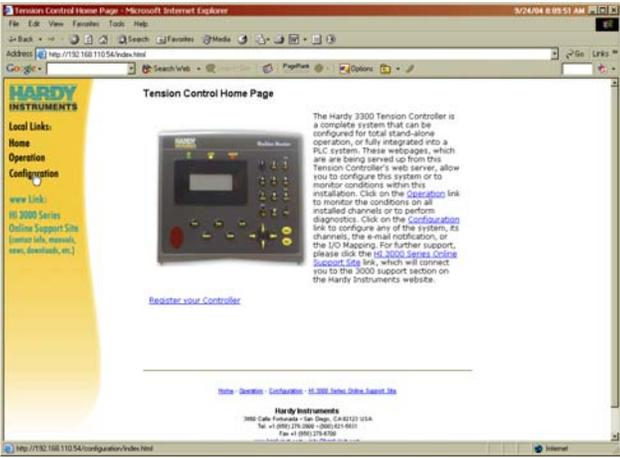

FIG. 2-13 CONFIGURATION MENU/SELECTING SETUP
Step 1. On the Tension Controller Home Page click on Configuration. (See Fig. 2-13) The Configuration page appears. (See Fig. 2-14)